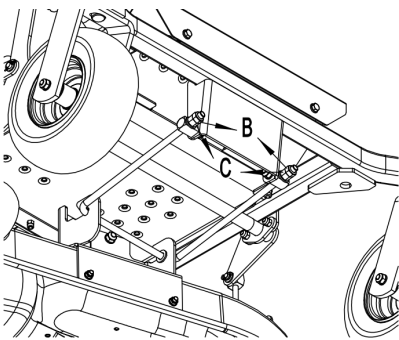

Fig. 18
The belt tension is set at the factory, but may need adjustment after the first hour of initial use. Periodically belt should be checked for proper tension, following the procedure below(Refer to Fig. 18).
- Loosen the lock nut (B) and adjust the nut (C) to change belt tension(Refer to Fig. 18).